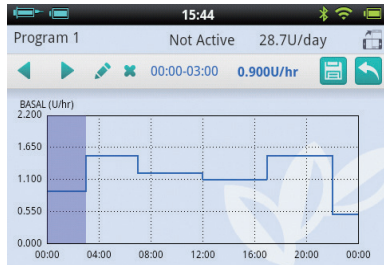

Figure 37
a) In the graph display, press and hold on any area of the graph to enter the edit mode as in Figure 37. The highlighted area is the period to be edited.